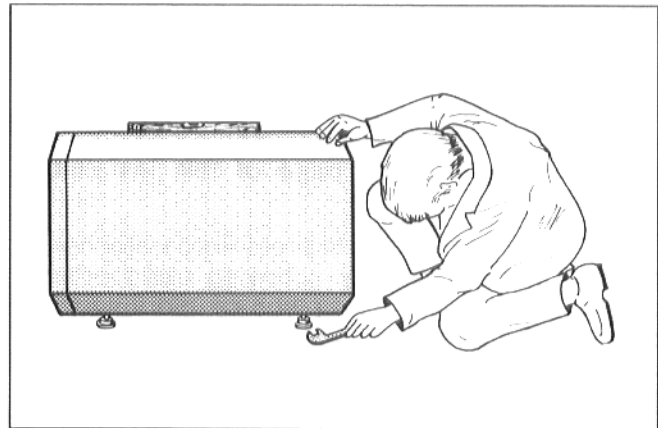

Fig. 4
- Align the indirect-fired water heater with a slight tilt toward the rear by adjusting the screw-on feet (Fig. 4).